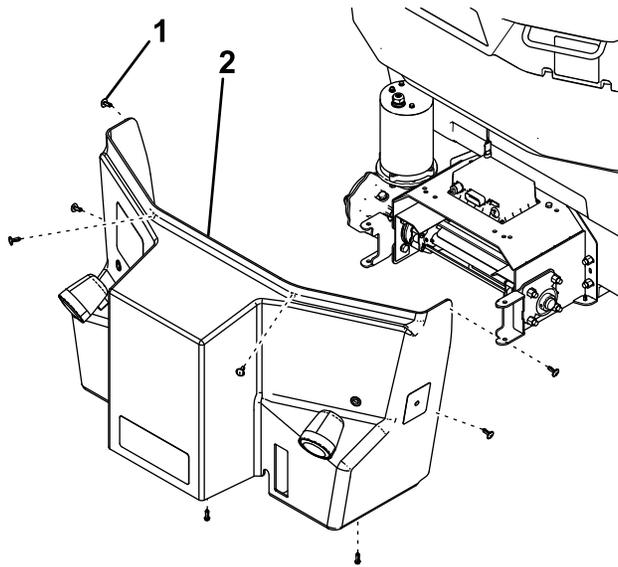

Figure 22
3. Remove the fasteners securing the front cover to the hopper (Figure 22).